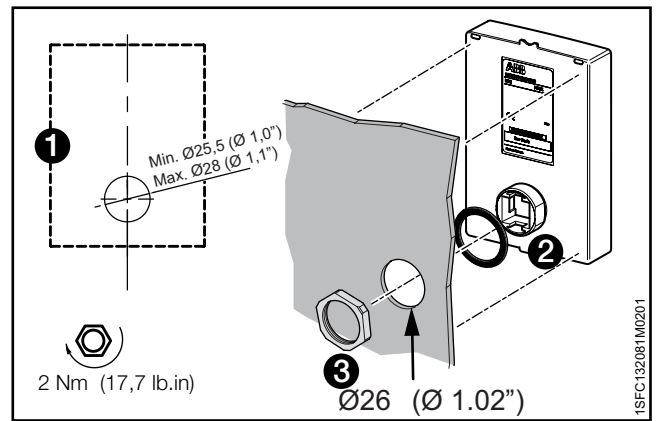

Figure 4.9
1. To remove the movable HMI from the softstarter, loosen the plastic latch below the movable HMI, see **1** and **2** in **Figure 4.9**.
2. Drill a hole where to attach the movable HMI. Maximum dimension of the hole is $\text{Ø}26$ ($\text{Ø} 1.02''$), see **1** in **Figure 4.9**. Put the rubber packing around the threaded network connector on the movable HMI, see **2** in **Figure 4.9**. Push the threaded network connector through the drilled hole. See **3** in **Figure 4.9**. Fasten the plastic screw-nut on the threaded network connector, with 2 Nm (17.7 lb/in).